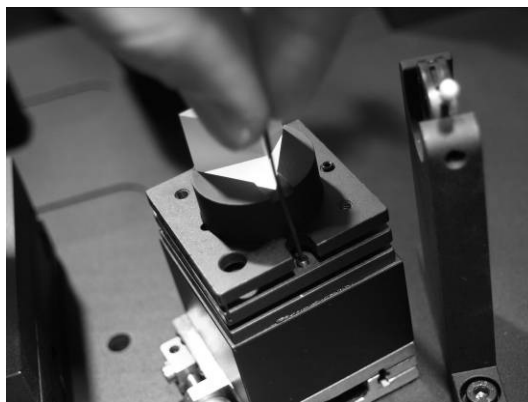

Figure V.5: Adjusting the prism tilt.
- 4.3.3.** Now look at the part of the beam which is deflected by the prism. Translate prism P2 all the way out of the path of the deflected beam and check using the same alignment aperture or diaphragm that the height is the same and the beam is parallel with the optical table. If necessary adjust the tilt stage in the opposite plane. (See Figure V.5)